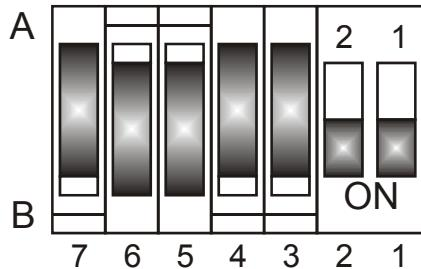

Fig. 6. Default microswitch settings of the V5422L
- To adjust the V5422L for floating control, microswitches 5 and 6 (located on the main PCB; see Fig. 3) must both be set to position "B" (see Fig. 6).